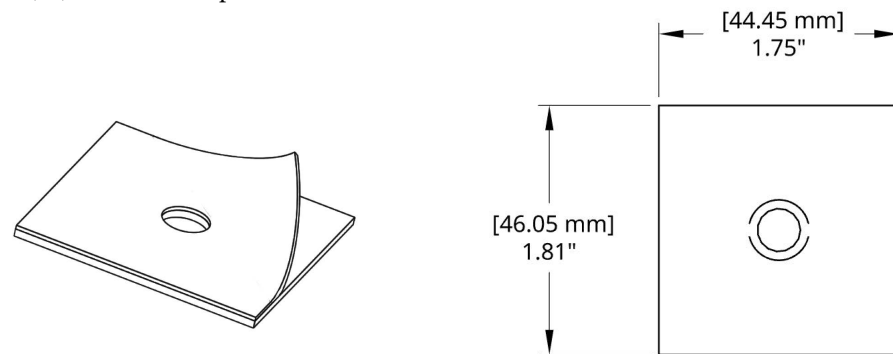

Figure 1
1. Remove adhesive cover on (one side only - Figure 1) half of the gaskets and apply sticky side to the back of the bracket (#5). Be sure to orient the gasket so that all the edges align.